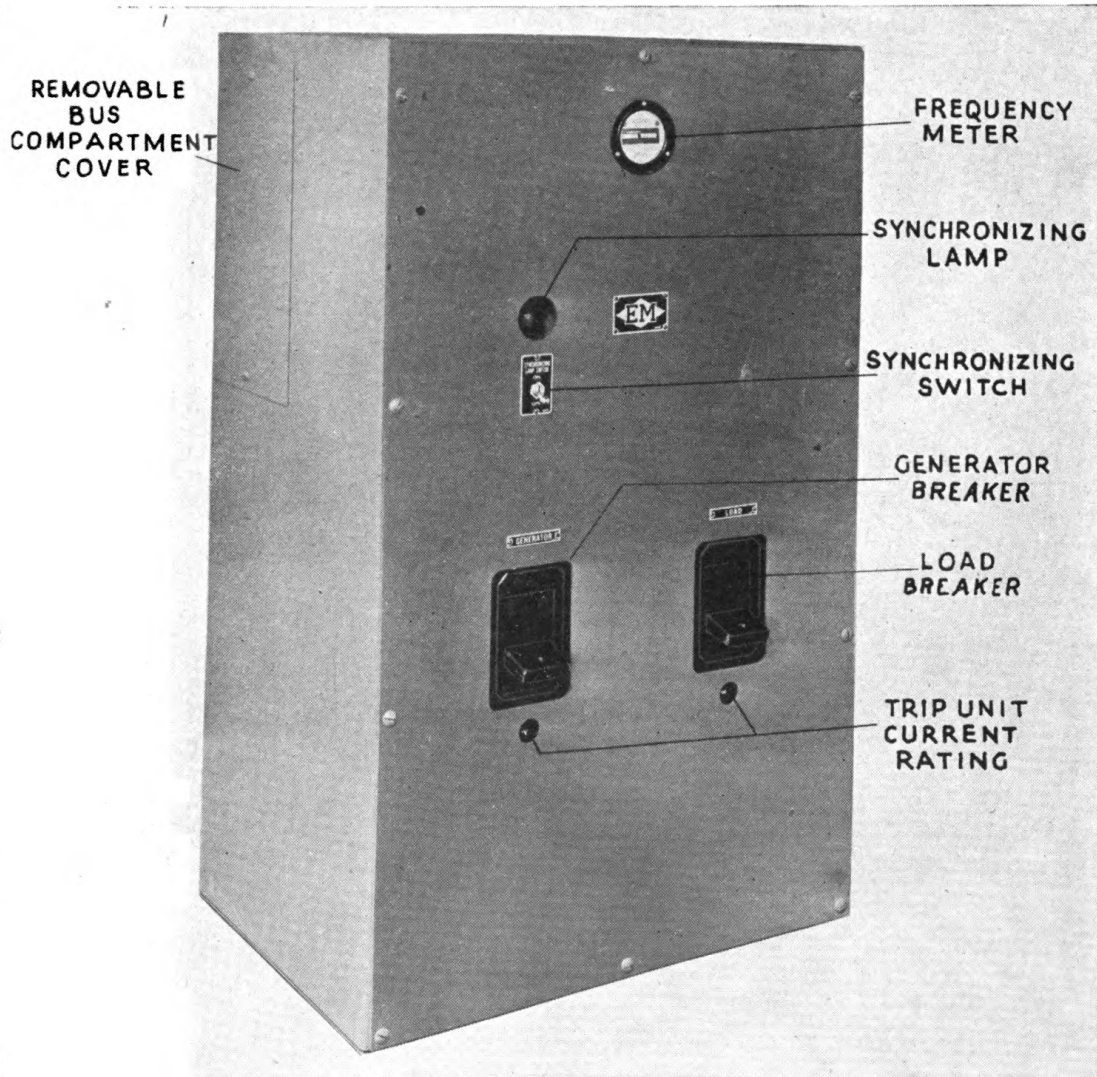

FIG. 6—Switch Cabinet—Synchronizing
- Figure 6 Switch cabinet—synchronizing.